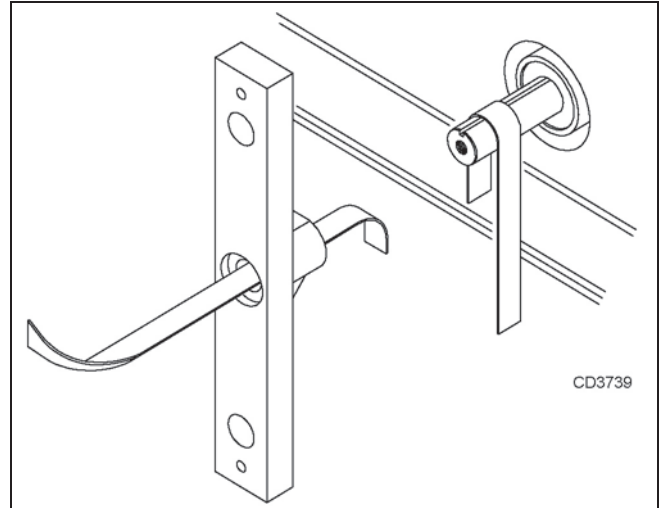

Figure 25. Example of Crossbar and Gearbox Shaft
1. Using emery cloth (220 or finer), remove surface rust, and foreign material from hub, splined gearbox vertical shaft, and crossbar. See Figure 25.